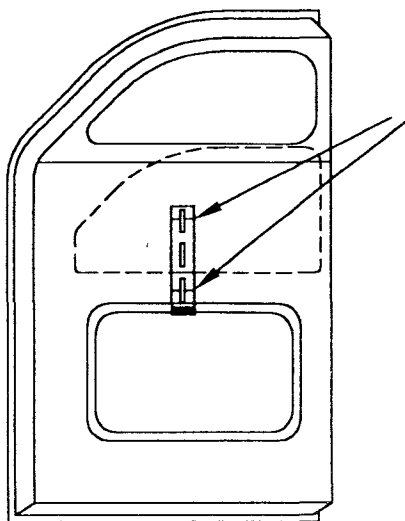

Fig 4
6. (Fig 4) Shows how the cut template is used to determine the best location for upper and lower mounting points. Make sure measurements are made in the center of the glass opening, you don't have to be precise since there are vertical and horizontal adjustments. The template has a mark that is approximately 3 1/2" from the bottom of the template. Place this mark on the previously marked bottom of glass location in (Fig 1).